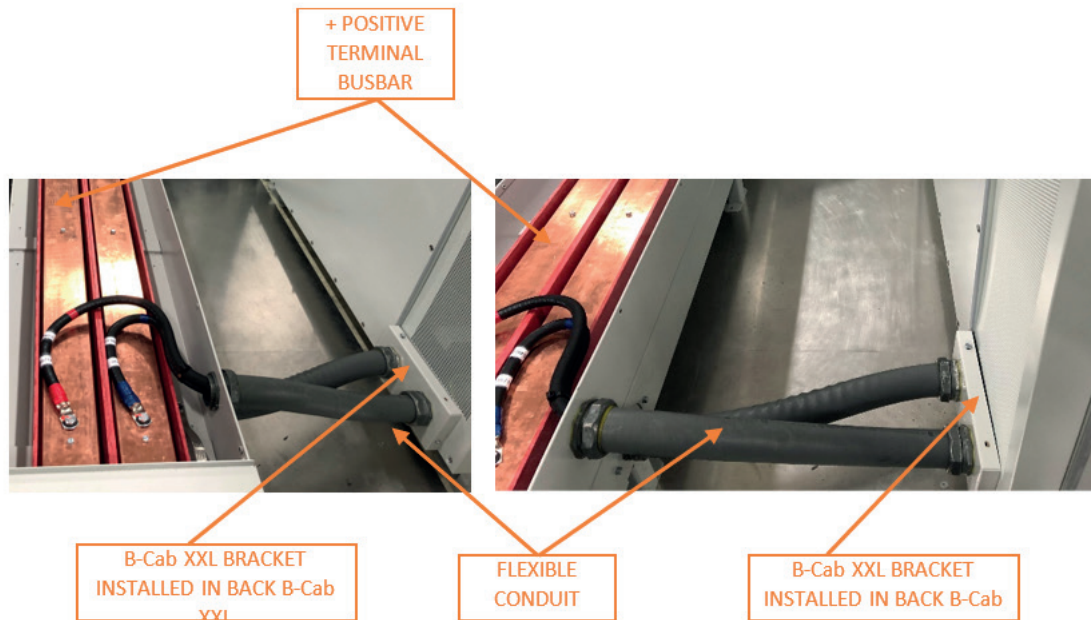

Figure 74. B-Cab XXL to C-Trough Flexible Conduit Installation.
- Install flexible conduit into the conduit fittings. Refer to Figure 74 for detailed visual instructions.